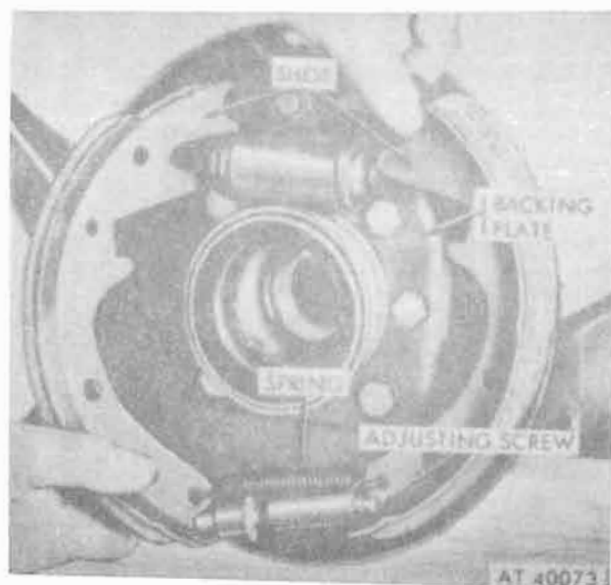

Figure 11-18. Brakeshoes and adjusting screw and spring assembly.
h. Remove brakeshoes and adjusting screw and spring assembly from backing plate (fig. 11-18).